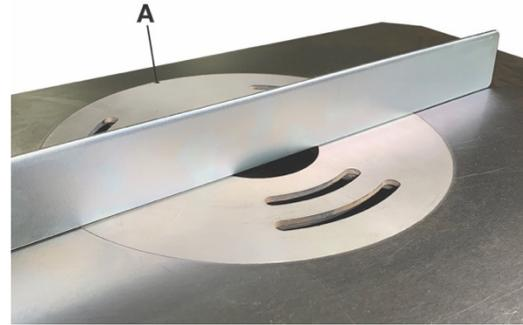

Figure 6-7: Leveling Table Insert
1. Position insert into table, so that the plate notch is captured by the pin (A, Figure 6-7).
2. Place a straight edge over insert and table (see Figure 6-7). If gaps appear between straight edge and insert, or if the insert is higher than the table, the insert plate height must be adjusted.